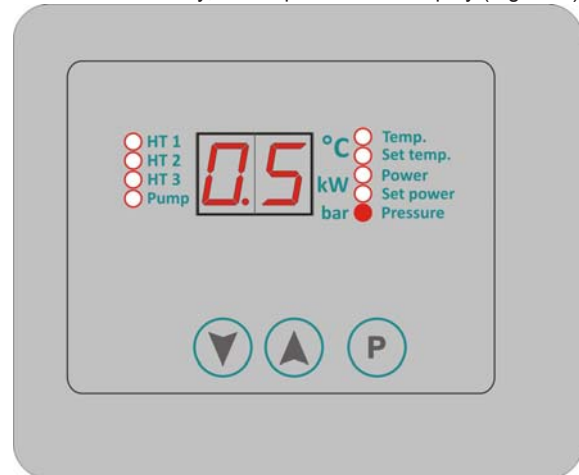
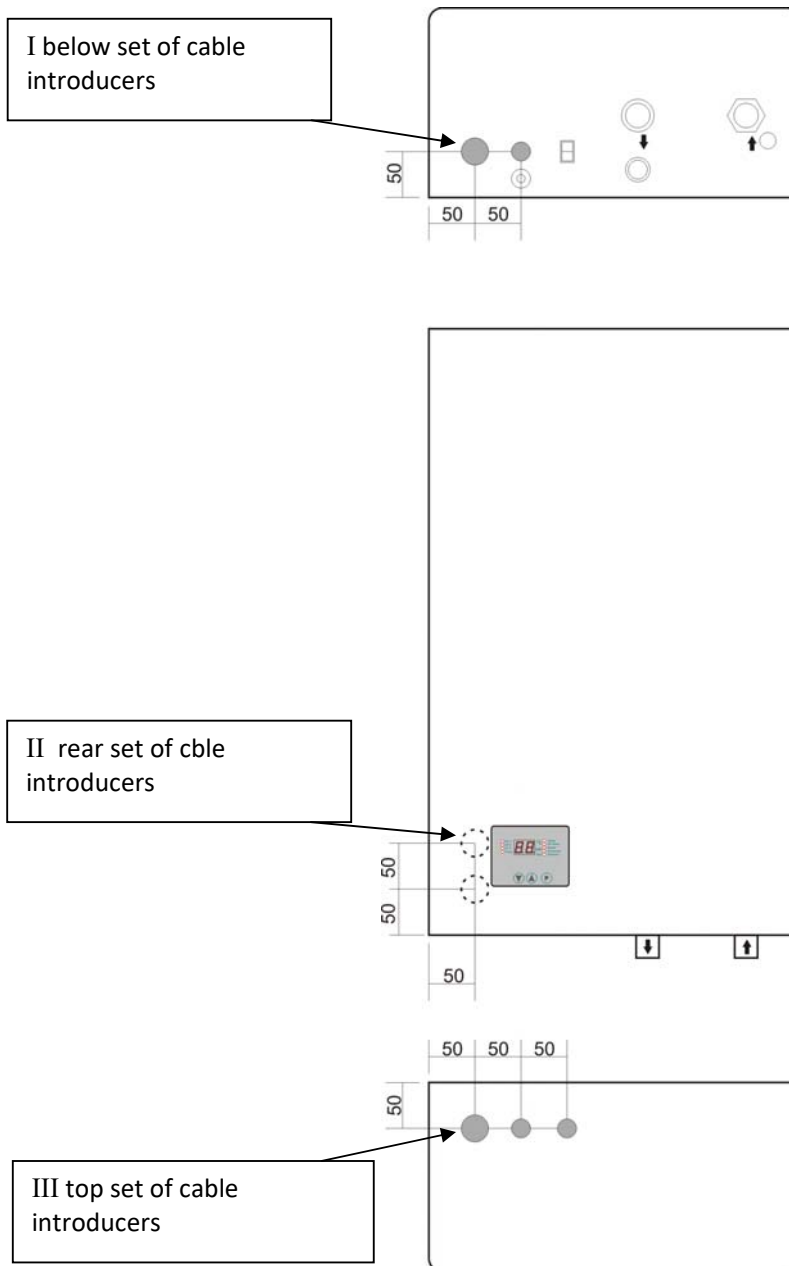

Figure 5 Display with marked pressure
Figure 6 Illustration of the position of cable introducers on the boiler
- ④ Comply with filling requests for water according to VDI 2035 or project documentation and catalogue
- ④ Check pre-pressure of expansion dish
- ④ Open faucet for filling and exhausting
- ④ Fill the boiler slowly; watch pressure on display (Figure 5):
- ④ Use vent valve to air vent the boiler (□ Figure 5 and Figure 6).
- ④ Air-vent the installation through valve on radiator
- ④ When lower working pressure by air vent, water must be re-filled.
- ④ Test watertight according to local regulations
- ④ After watertight testing, open all elements that were closed due to filling
- ④ Check if all safety elements work correctly
- ④ When the boiler is tested and no leaking was spotted - adjust correct working pressure.
- ④ Remove hose from the filling/exhausting faucet
- ④ Enter working pressure values and water quality into instructions for handling
I set introducers (main set) is on lower side (below) of device. They are on lower plate of device in the back left corner (See Figure 6). It is intended for connecting device when power cable comes from the lower side of the boiler.
II set introducers is placed on the rear of device and is used when cables on the wall are prepared for the boiler. They provide power cable from the wall to get directly into the boiler. When front lid is removed, it is visible in lower left side two openings of dimensions of 28 mm, placed one above the other. This mode of connecting secures just aesthetic function because cables are not visible (See Figure 6).
III set introducers are placed on the top of boiler in rear left corner (See Figure 6) they are intended for connecting device when power cable comes from the upper side of device.